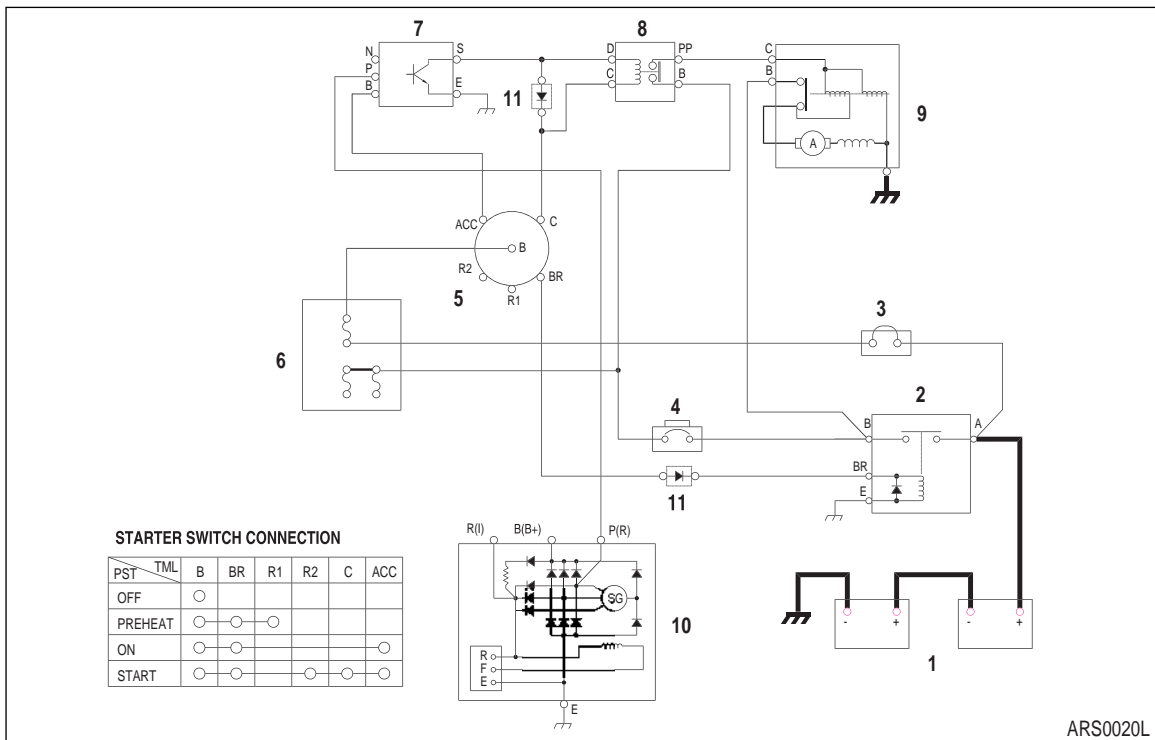

Figure 2 STARTER CIRCUIT (1) - WHILE STARTING
When the starter switch is turned to the start position, the "S" and "E" terminals of the starter controller (7) are connected. At this time the contacts in the starter relay (8) are closed by the current flow from the battery (1, Figure 2) → fusible link (3) → "B" terminal of the starter switch (5) → "C" terminal of the starter switch (5) → "C" terminal of the starter relay (8) → "D" terminal of starter relay (8) → "S" terminal of starter controller (7) → "E" terminal of the starter controller (7) → ground.
The current flows from the battery (1) → "A" terminal of the battery relay (2) → "B" terminal of the battery relay (2, Figure 2) → "B" terminal of the starter (9). The starter motor is rotated and the engine is started.